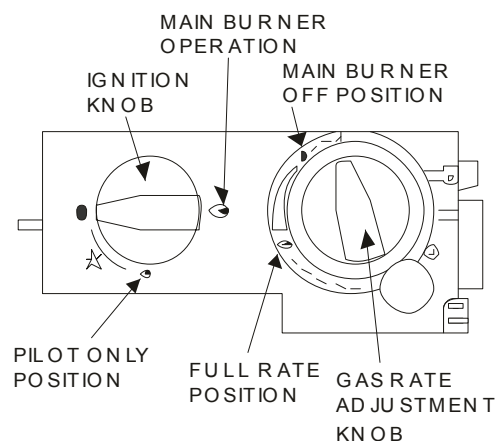

Figure 14 - Gas Valve
2. With the gas available at the valve press in the IGNITION KNOB and turn it anticlockwise to the pilot flame position (see **Figure 14**). A click of the piezo igniter will be heard and a spark will appear at the electrode. At the same time the gas will flow to the pilot burner and will be ignited by the spark. Repeat the procedure until the pilot flame is established.